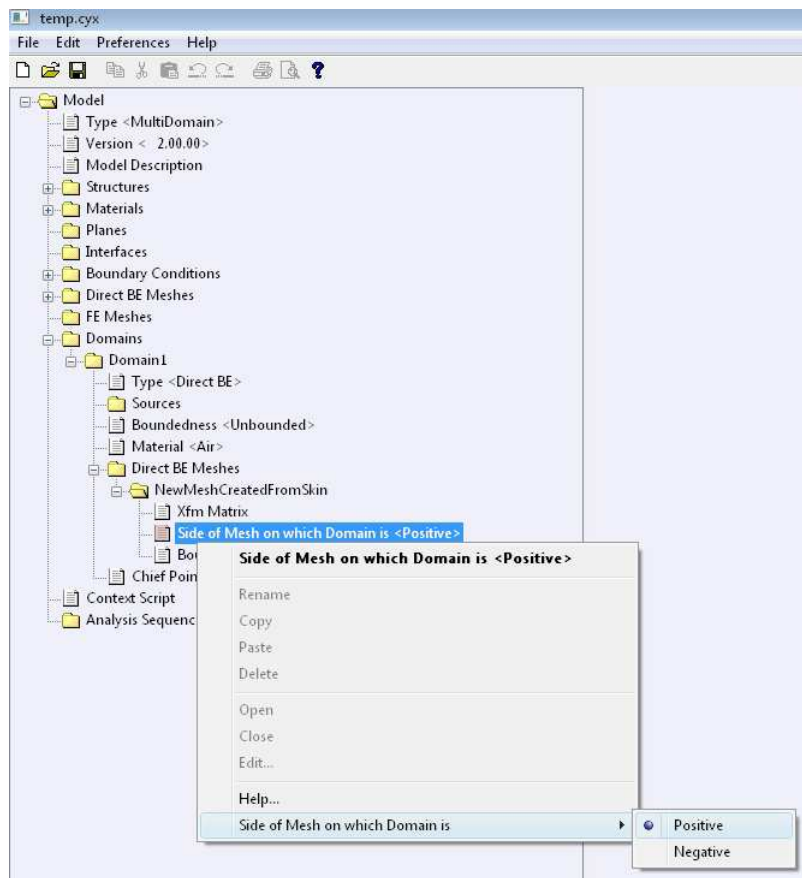

Figure 22: Set the side of the mesh on which the domain is.
- Select: **Model > Domains > Domain1** or *<Domain Name>* > **Direct BE Meshes > NewMeshesCreatedFromSkin > Side of Mesh on which Domain is**. Right-click on **Side of Mesh on which Domain is** and select: **Side of Mesh on which Domain is > Positive** as shown in Figure 22.